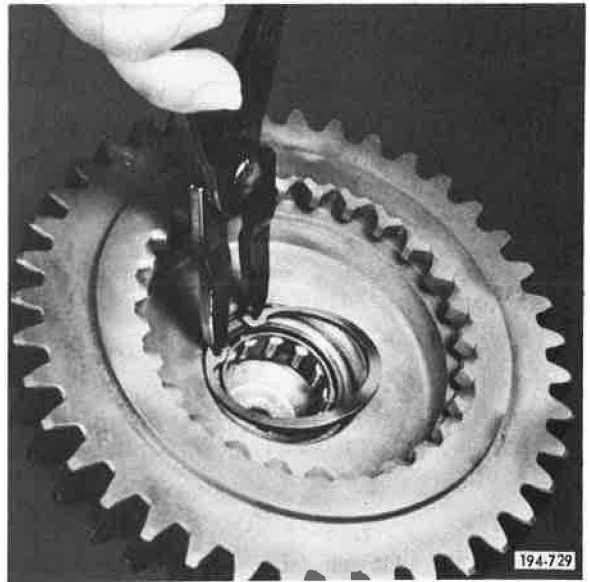

Figure 310. Installing Snap Ring
4. Install spigot bearing retaining snap ring. See Figure 310.